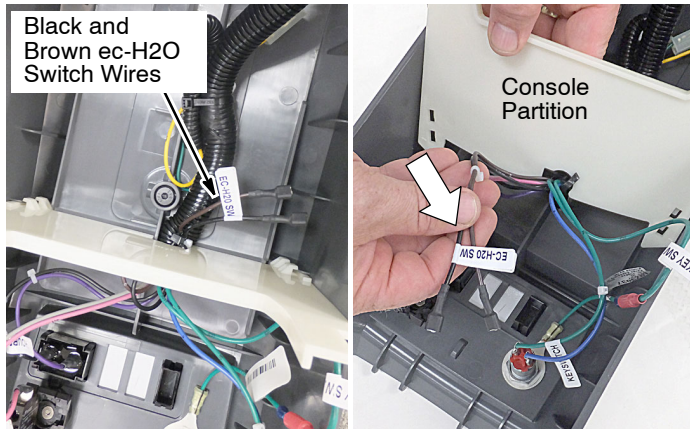

Fig. 8
- Locate the factory installed black and brown ec-H2O switch wires wire-tied to harness, cut wire-tie. Lift the console partition and route the two wires to the switch area as shown (Figure 8). Replace partition.